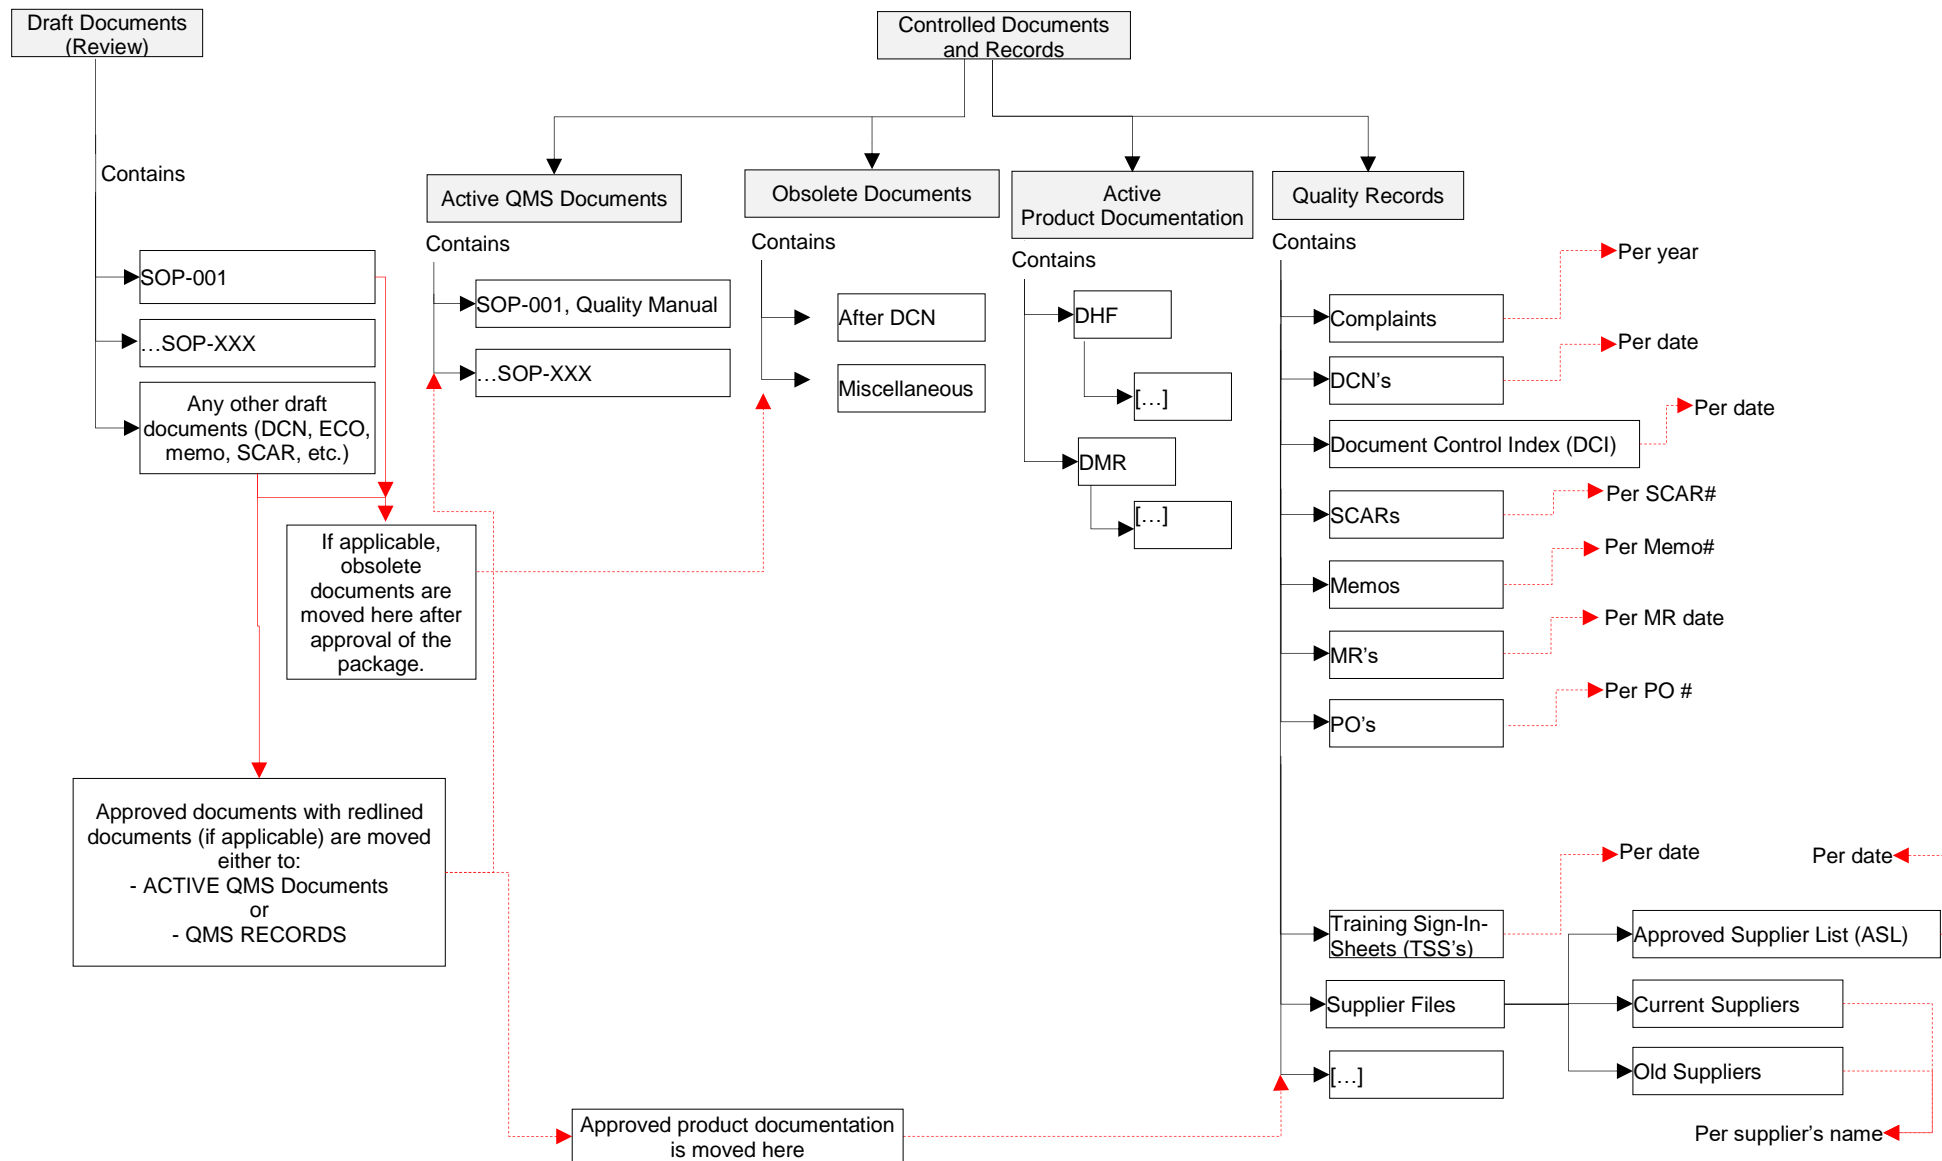

Figure 1: GT Medical's QMS structure on BOX
The following Figure 1 provides an example of how these subfolders are linked together and what type of information they should contain. This information shall include, as applicable, documents of external origin that are necessary inputs to the quality management system.
Figure 1 also shows how the approved files (and redlined files if applicable) should be moved from the *Draft Documents (Review)* folder to either:
- 6.4.1.3. GT Medical's Executive Representative and/or QA Representative will invite someone into a folder as a collaborator only if this person is working with GT Medical on an ongoing basis, and they need persistent access to the QMS content. By default, all GT Medical personnel requiring day-to-day access to the QMS will be granted the Editor role at the GT Medical folder level (highest level) so that they can have access to the five minimum subfolders contained in it (see Figure 1) and they can create quality records.